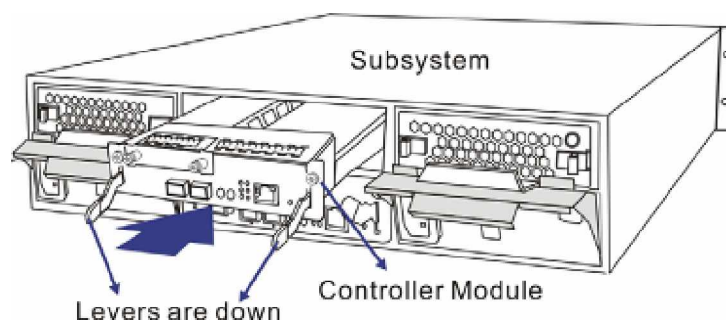

Figure 5-4: Installing the Controller Module
Step 3. Install the controller module. Make sure the levers at the back of the controller module are down. Align the controller module with the controller module bay at the rear of the subsystem. Gently slide the controller module in. (See Figure 5-4)